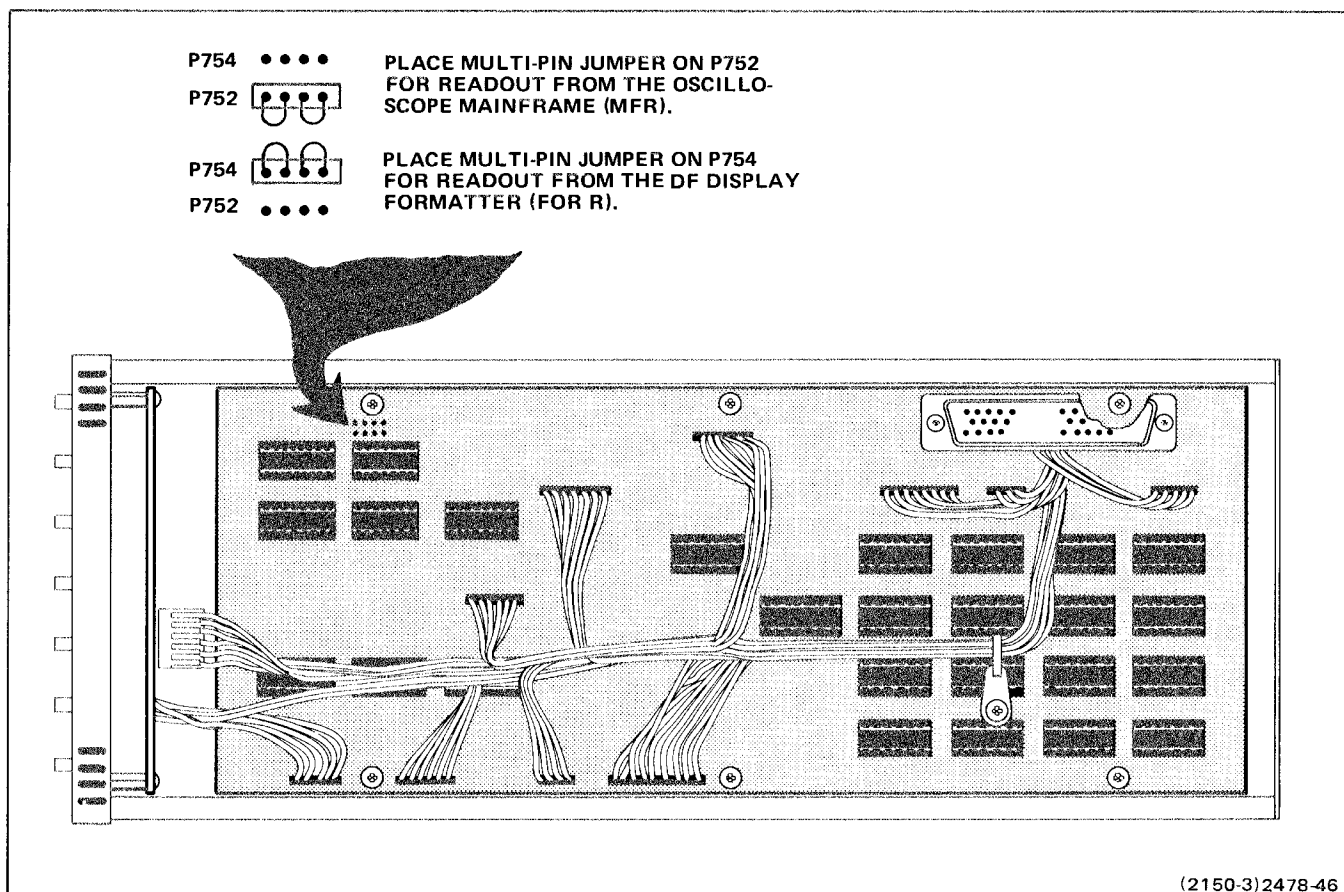

Figure 6-3. Location of readout source multi-pin jumper.
- a. Connect the DF Readout Source multi-pin jumper (internal) to display the formatter readout (FOR R). Refer to Figure 6-3.
g. Connect the DF Readout Source multi-pin jumper (internal) to display mainframe readout (MFR). Refer to Figure 6-3.
d. Set the System Test Fixture ADDRESS switches to 00A8. Set DATA switches: number 3 to HI (1), number 1 to HI (1), and number 0 to LO (0).
a. Connect the DF Readout Source multi-pin jumper (internal) to display the mainframe readout (MFR). Refer to Figure 6-3.
b. Set the System Test Fixture ADDRESS switches to 0098, and DATA switch number 0 to HI (1).
- a. Connect the DF Readout Source multi-pin jumper (internal) to display the mainframe readout (MFR). Refer to Figure 6-3.
- b. Set the System Test Fixture ADDRESS switches to 0098, and DATA switch number 0 to HI (1).
- d. Set the System Test Fixture ADDRESS switches to 00A8. Set the DATA switches: number 3 to HI (1), number 1 to HI (1), and number 0 to LO (0).